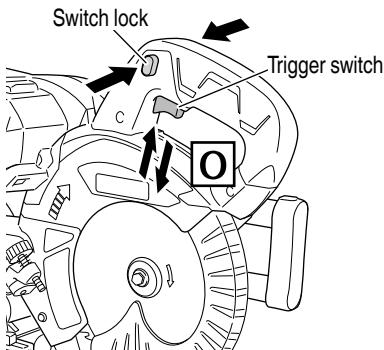

Fig. 26
## (1) Turning the saw on (Fig. 26)